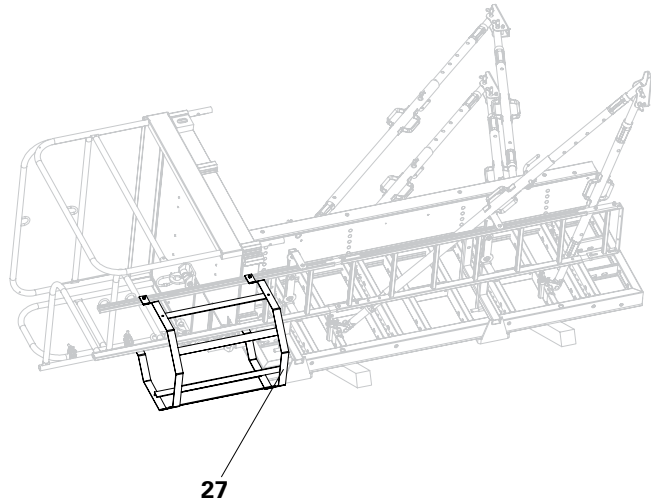

Fig. A3.12
8. Mount Ladder Safety Cage 75 or 150 (27, 28) with Clamping Plates according to plan. Depending on the situation, mount with overlapping ladder joints. (Fig. A3.12) Clear spacing between the Ladder Safety Cages \leq 30 cm.